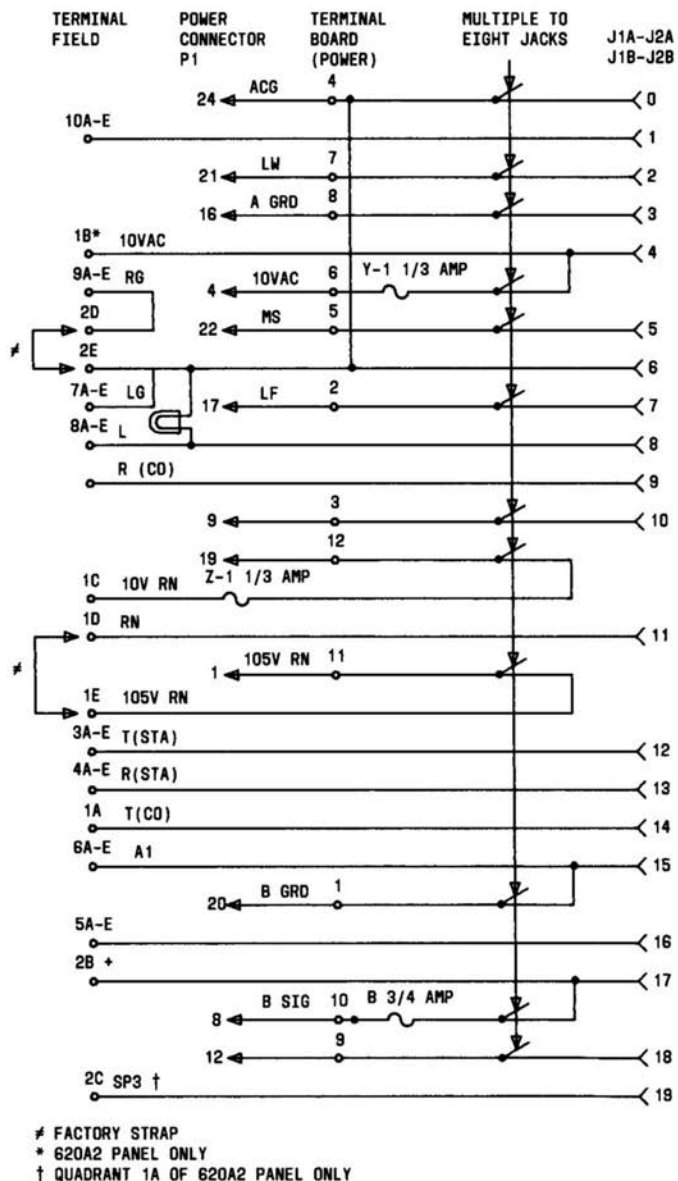

Fig. 15—620A (MD) or 620A2 Modular Panel Maintenance Diagram
- Continuity testing (913-/914-type connectors to 66-type terminal connections). Consult Fig. 15, 16, and 17.‡